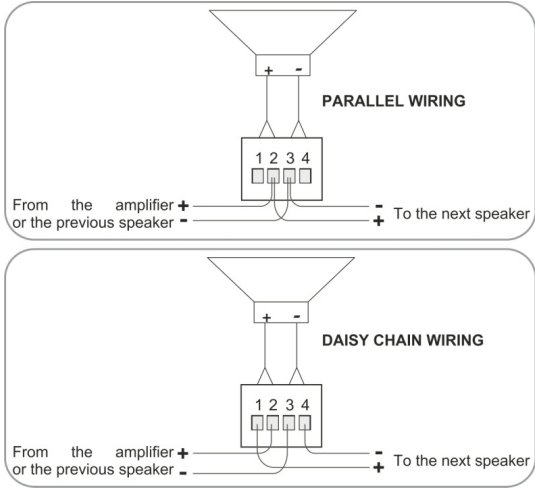

Figure 4: Closed-back Ceiling Speaker Schematic Diagram
Figure 4 shows a schematic diagram of the Closed-back Ceiling speaker:
- **Wiring in parallel:** connect the wire pair of the subsequent speaker to PIN 2 and PIN 3. When one input connector is removed, subsequent speakers will remain connected (see Figure 4)
- **Daisy-chaining:** connect the wire pair of the subsequent speaker to PIN 1 and PIN 4. When one input connector is removed, subsequent speakers will be disconnected (see Figure 4)